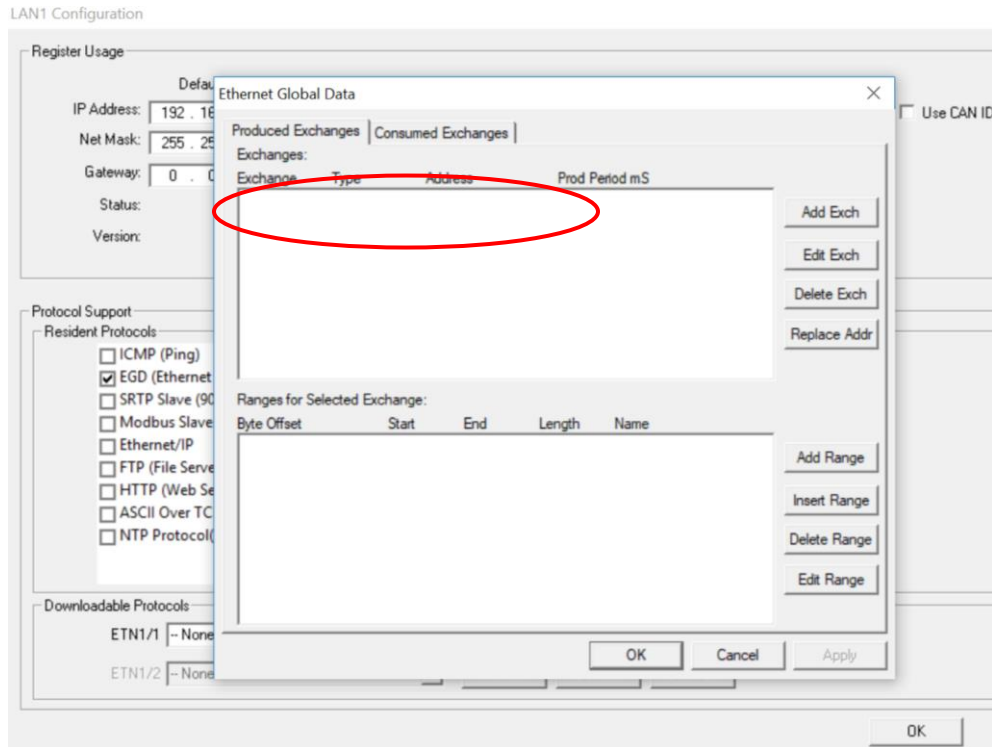
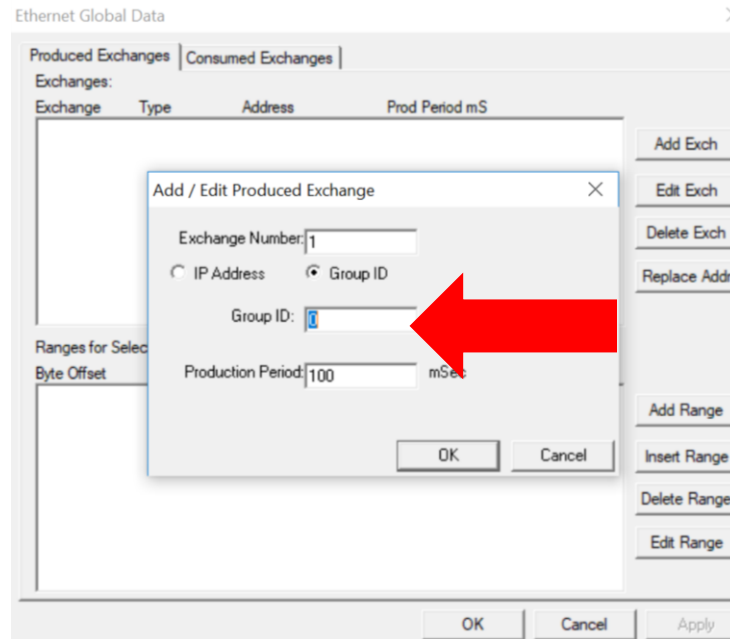

Figure 5.2- Ethernet Global Data (EGD) Configuration Dialog:
Figure 5.5 - Multicast Ethernet Global Data (EGD) dialog
To configure EGD Produced Exchanges, open the Ethernet Global Data Configuration dialog (Figure 5.2) as described in Section 5.3, and select the **Produced Exchanges** tab, where:
- 1a. **To configure a UNICAST communication:** After opening the Ethernet Global Data Configuration dialog (Figure 5.2 in Section 5.3), click on the **Add Exch** button to open the Add / Edit Produced Exchange dialog (Figure 5.5). Select the destination Address and enter information.
1b. To configure a **MULTICAST** communication: After opening the Ethernet Global Data Configuration dialog (Figure 5.2 in Section 5.3), click on the **Add Exch** button to open the Add / Edit Produced Exchange dialog (Figure 5.5). Select and assign Group ID.
3. Click **OK** to accept the new Produced Exchange configuration, which will be now be displayed in the upper window of the Ethernet Global Data dialog (Figure 5.2).
5. To edit or delete a Produced Exchange, highlight it in the upper window of the Ethernet Global Data Configuration dialog (Figure 5.2 as described in Section 5.3), and then click on the **Edit Exch** button or the **Delete Exch** button.
1. In the upper window of the Ethernet Global Data dialog (Figure 5.2 in Section 5.3), highlight one of the Produced Exchanges, and then click the **Add Range** button to open the Add I/O Range to Exchange dialog.
NOTE: The OCS registers, specified in Data Block definitions, are sent to the EGD network in top-to-bottom order, as they appear in the lower window of the Ethernet Global Data Configuration dialog (Figure 5.2) in Section 5.3.
To configure EGD Consumed Exchanges, open the Ethernet Global Data Configuration dialog (Figure 5.2) as described in Section 5.3, and select the **Consumed Exchanges** tab, where:
3. Click **OK** to accept the new Consumed Exchange configuration, which will now be displayed in the upper window of the Ethernet Global Data Configuration dialog (Figure 5.2) as described in Section 5.3.
5. To edit or delete a Consumed Exchange, highlight it in the upper window of the Ethernet Global Data Configuration dialog (Figure 5.2), and then click on the **Edit Exch** or **Delete Exch** button.
- Click **OK** to accept the Consumed Exchange's new I/O Block, which will be now be displayed in the lower window of the Ethernet Global Data dialog (Figure 5.2) as described in Section 5.3.